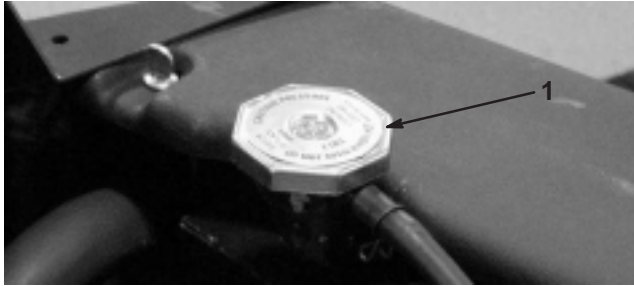

Figure 25
1. Carefully remove the radiator cap (Fig. 25).